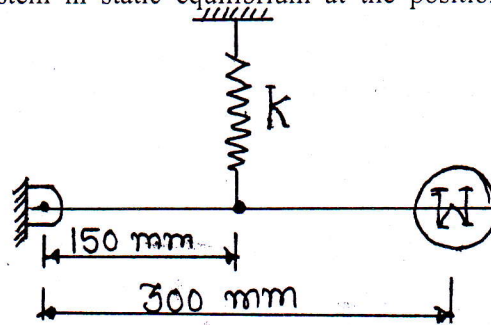

Fig 6.1
Q.6 Attempt Any TWO. (10)
- (A) Explain necessary condition of Grashof's law for four bar chain mechanism.
(B) Fig 6.1 shows a weight $W = 66.75$ N connected a pivoted rod which is assumed to be